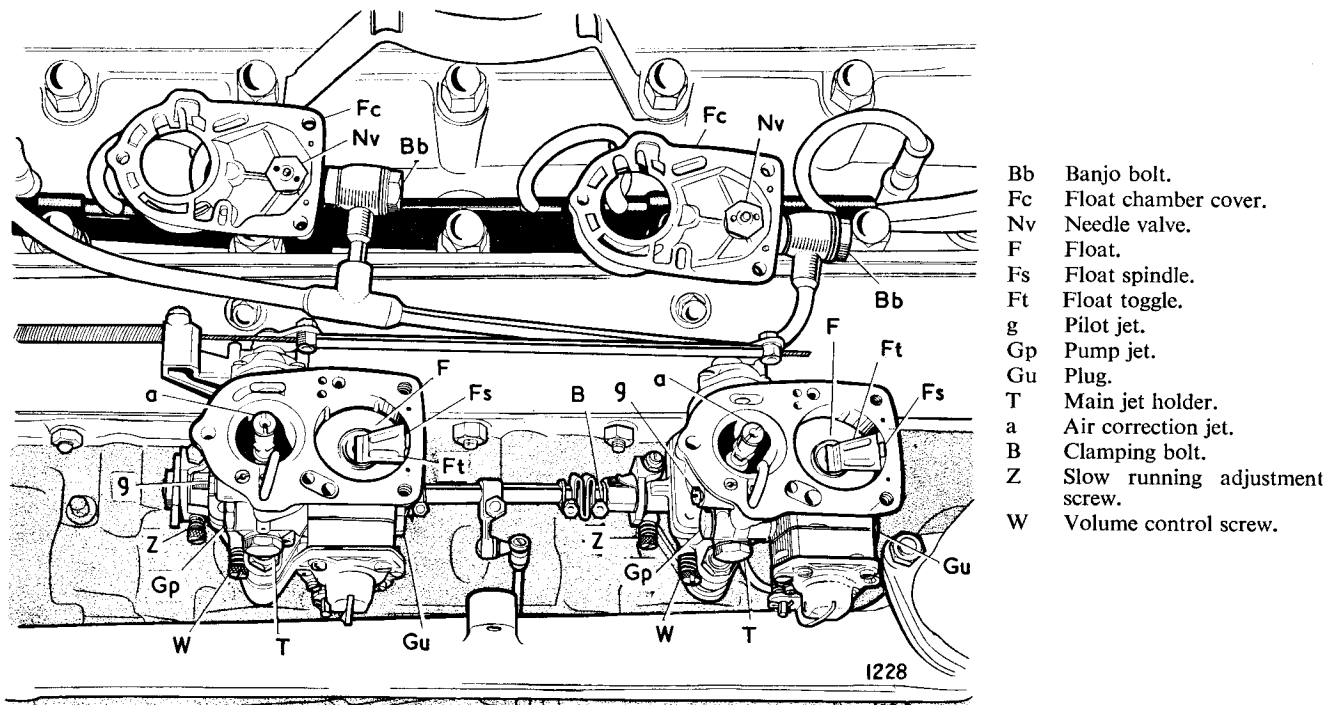

Fig. 5. View of the carburetters with float chamber covers removed.
Remove the air cleaner. Unscrew banjo bolts (Bb) (Fig. 5) and remove filter gauzes.
Each carburettor has two external adjustments, the slow-running adjustment screw (Z) (Fig. 5) and mixture volume control screw (W).
- (1) Switch off the engine and loosen the clamping bolt (B) on the flexible link between the carburettors. Each instrument should now be separately adjusted. Starting with the front carburettor :—
- (2) Unscrew the screw (Z), and ensure the throttle is closed by manual pressure on the slow running screw. Insert a .002" feeler (or strip of paper) between screw (Z) and the casting stop, screw in (Z) until feeler or paper is lightly nipped. Remove feeler and screw in (Z) one further complete turn from this point.
- (3) Gently screw the volume control screw (W) clockwise until light contact is made with the casting seat, then unscrew three-quarters of a turn.